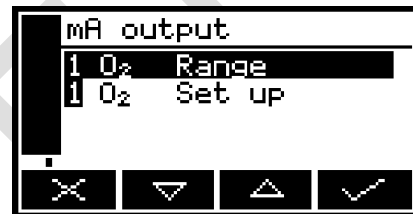

Figure 46 – The mA configuration screen (one measurement analyser)
4. Return to the mA configuration screen (Figure 46) and select 'Set up' option.